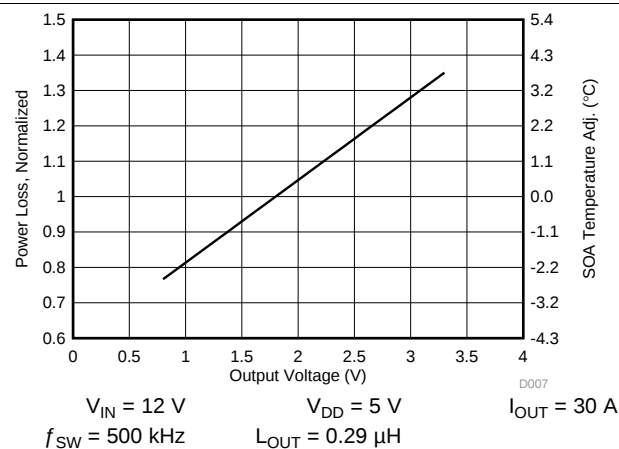

Figure 10. Normalized Power Loss vs Output Voltage
- Normalized Power Loss for output voltage ≈ 1.05 (Figure 10)
- SOA adjustment for output voltage $\approx 0.51^\circ\text{C}$ (Figure 10)